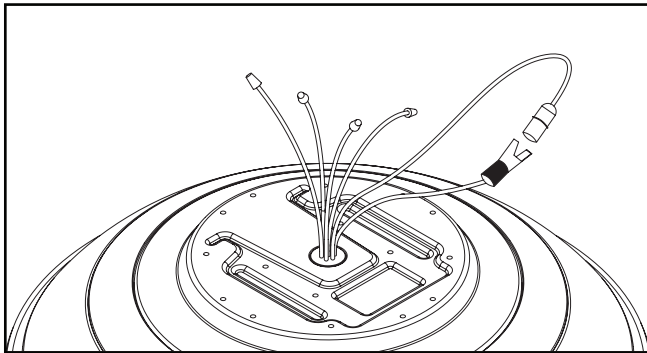

Figure 1. Image Showing Fixture, Wires And Battery Connector
1. Make Input Electrical Connections. (Figure 1)